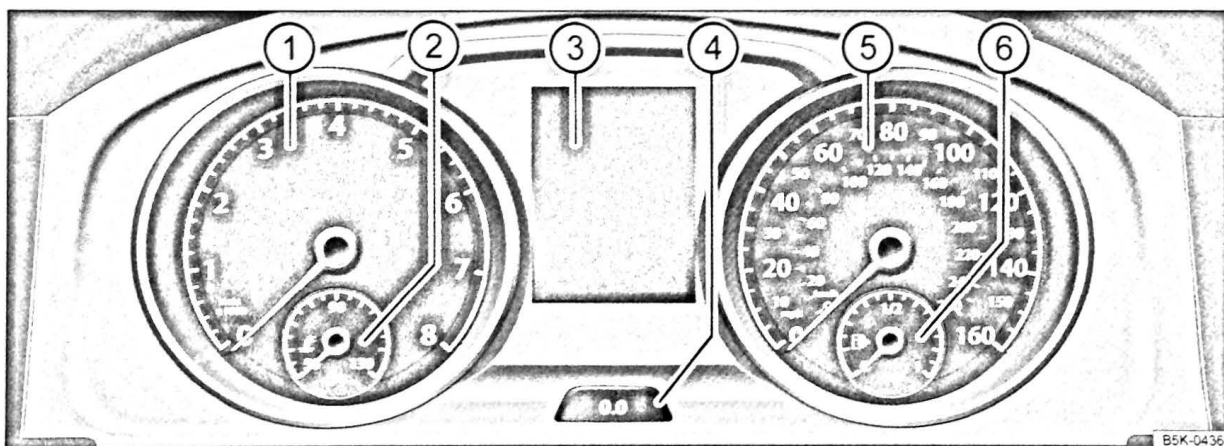

Fig. 12 Instrument cluster in the dash panel
Descriptions of the instruments ⇒ Fig. 12:
Depending on the vehicle equipment level, a variety of information can be displayed in the instrument cluster  $\Rightarrow$  Fig. 12 **③**:
- Press button ⇒ Fig. 12  briefly to reset the trip recorder to 0.
- To set the time, press and hold button ⇒ Fig. 12  while the doors are closed until the word **Time** appears in the display.
To display the charge level, press and hold button ⇒ Fig. 12 ④ with the ignition switched off until SOC appears in the display.
Press and hold button ⇒ Fig. 12 ④ (for approximately 15 seconds) to show the vehicle's engine code in the display. The ignition should be switched on but the engine should not be running.